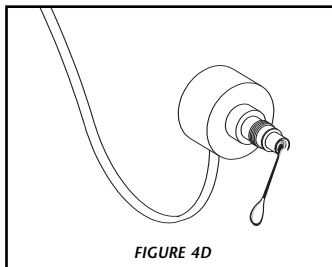

FIGURE 4D
3. Once the sensor is free from the reactor chamber, clean the quartz window with a commercial scale remover (CLR or Lime-A-Way) and a lint free cotton swab (Figure 4d). Follow all manufacturer's instructions regarding the cleaning fluid used. Do not use an abrasive cleaner on the sensor window. Scratching of the sensor window will void any manufacturer's warranty on this item.